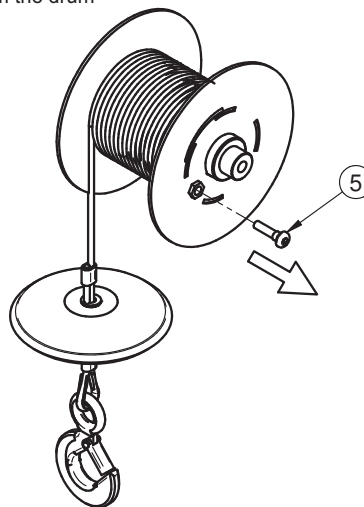

Fig. 4.3
3) Unscrew and remove screw Ref.5 Fig.4.3 and completely unwind the rope from the drum